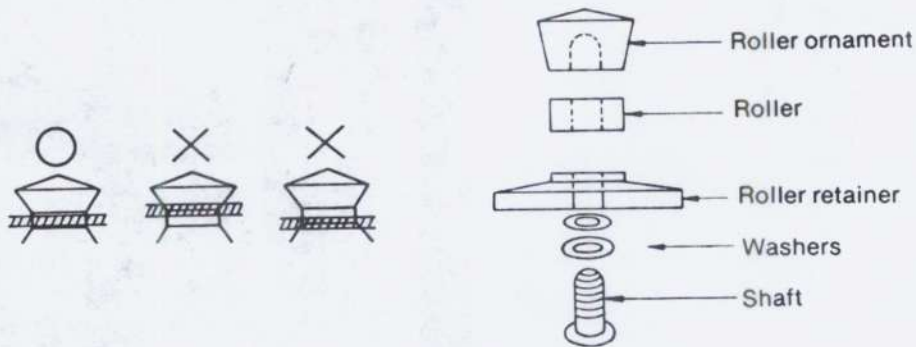

Fig. 29
- If the tape moves up and down as it passes over the tension roller, adjust the number of washers shown in figure 29.